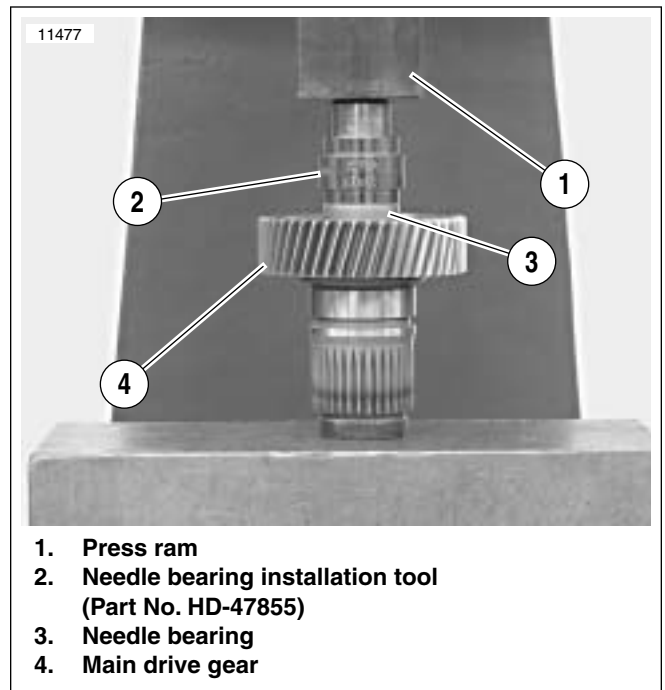
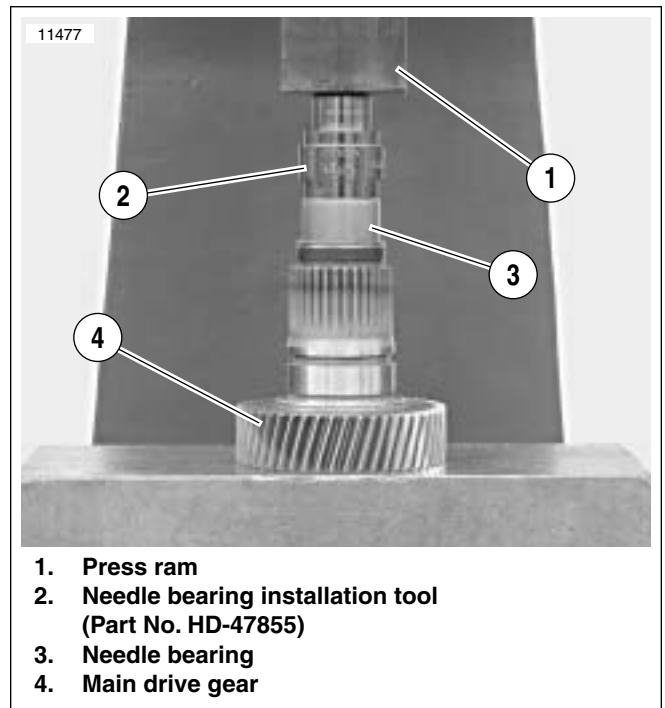

Figure 6-71. Pressing Inner Needle Bearing Assembly into Main Drive Gear
Figure 6-72. Pressing Outer Needle Bearing Assembly into Main Drive Gear
2. See Figure 6-71. Place main drive gear (4) on press bed with gear end facing up.
3. Place needle bearing (3) squarely into end of drive gear. Insert installation tool (2) with end stamped "INNER" facing needle bearing.
6. See Figure 6-72. Place main drive gear (4) on press bed with gear end facing down.
7. Place needle bearing (3) squarely into end of drive gear. Insert installation tool (2) with end stamped "OUTER" facing needle bearing.